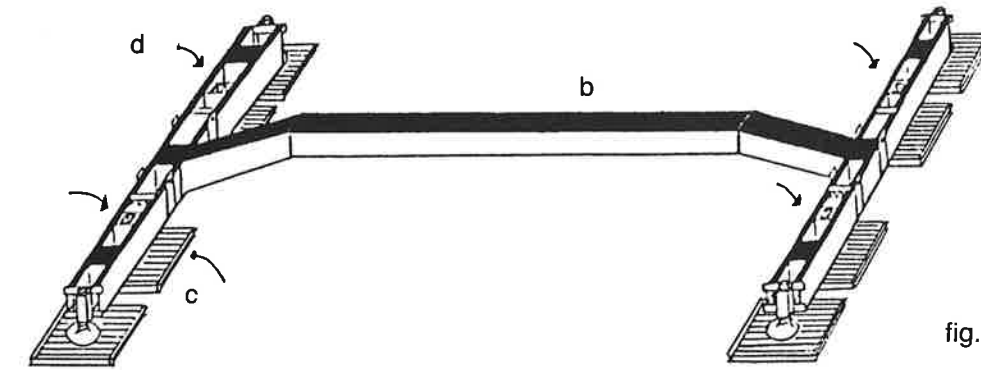

fig. 4
For buildings of 8 or more stories, in addition to the adjustable legs already in place at the four corners of the base, additional legs (A) must be added in the appropriate centre spaces (d) of the base (b). Each block (c) should first be centered to correspond to the additional leg and levelled. See figs. 4 & 5
Additional legs (A) are simple to assemble. See figs. 4 & 5